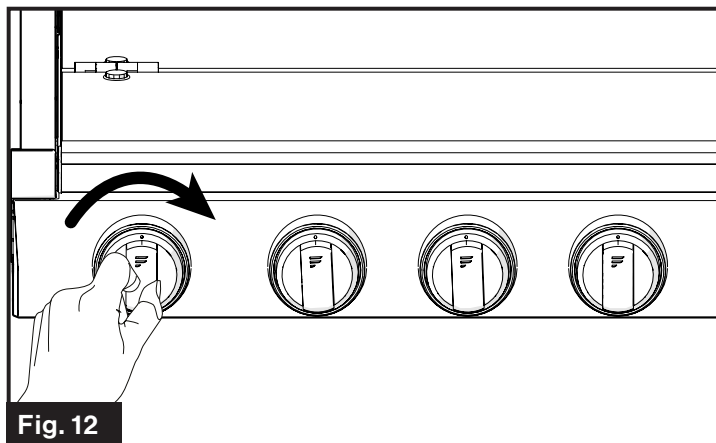

Fig. 12
3. Keep the burner control knob pushed in and turn the ignition knob clockwise repeatedly until the burner is lit. (Fig. 12)